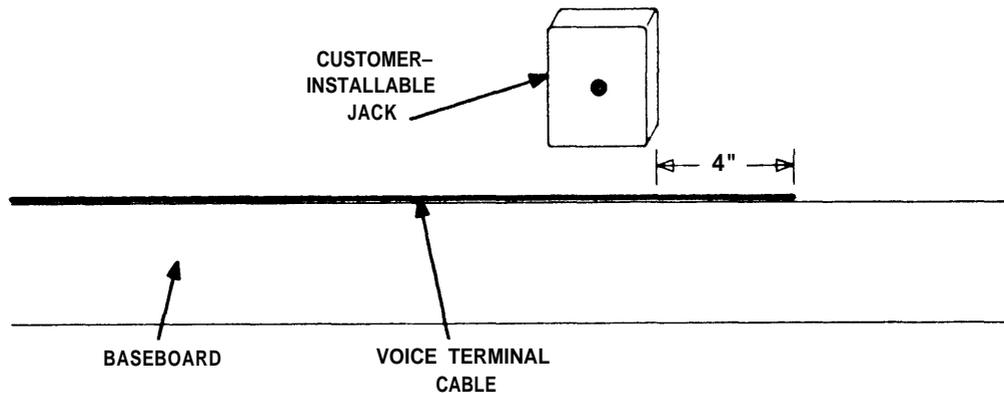

Figure 12
- ❑ 3. Route the cable along the top of the baseboard, or where it will be least noticeable. (Allow at least an extra 4 inches of cable (at each end) beyond each of the jacks for connecting.) See Figure 12.